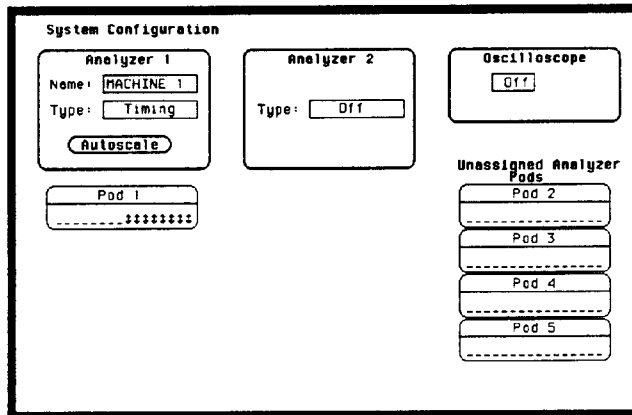

Figure 3-32. System Configuration for Glitch Test
- Assign the pod under test to **Analyzer 1** in the **System Configuration** as in figure 3-32. Refer to steps a through c if you are unfamiliar with menus.